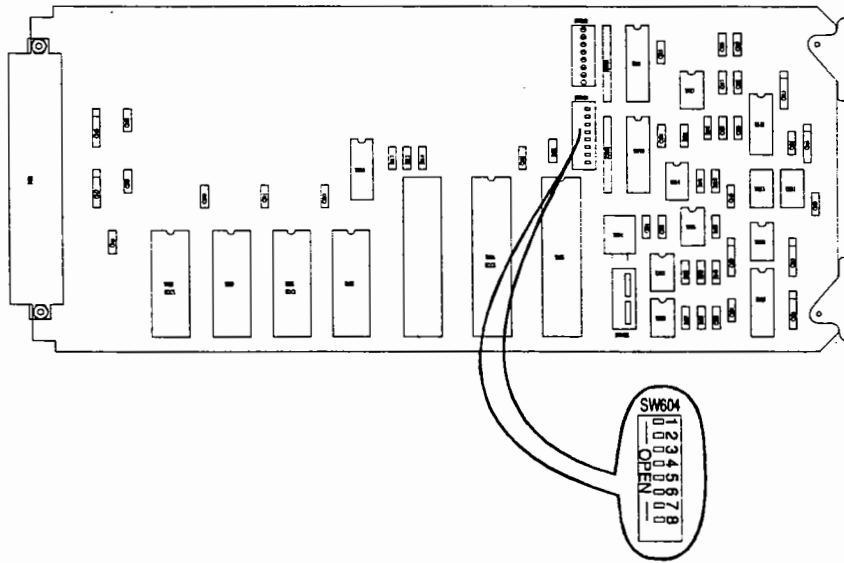

Figure B-3. Expansion Interface PCB (ARINC-429 Adjustments)
2. Position the DIP switches shown in figure B-3 to the appropriate positions to select ARINC-429 transmitter and receiver operating speeds. Refer to the table provided in figure B-4 when setting the DIP switches.